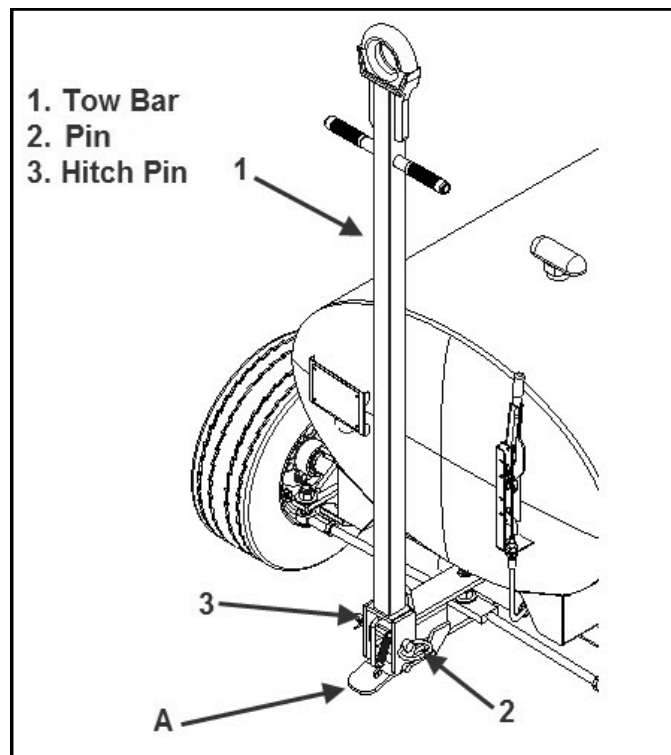

Figure 4-4 Tow Bar Removal
- Raise equipment with suitable maintenance jack (see Figure 4-4, arrow A for jack placement) to allow four inches of space between the wheels and ground.